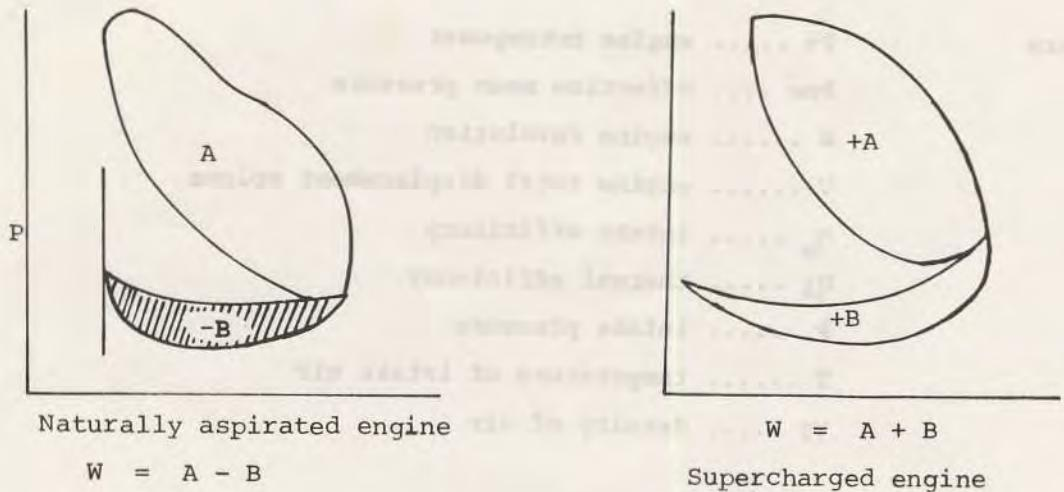

Fig. 1
- 3) Reducing the pumping loss (Refer to Fig. 1). If the intake pressure is higher than atmospheric pressure in suction stroke, the pumping loss does not occur as in a naturally aspirated engine. In a supercharged engine the pumping loss is positive whereas in a naturally aspirated engine it is negative;